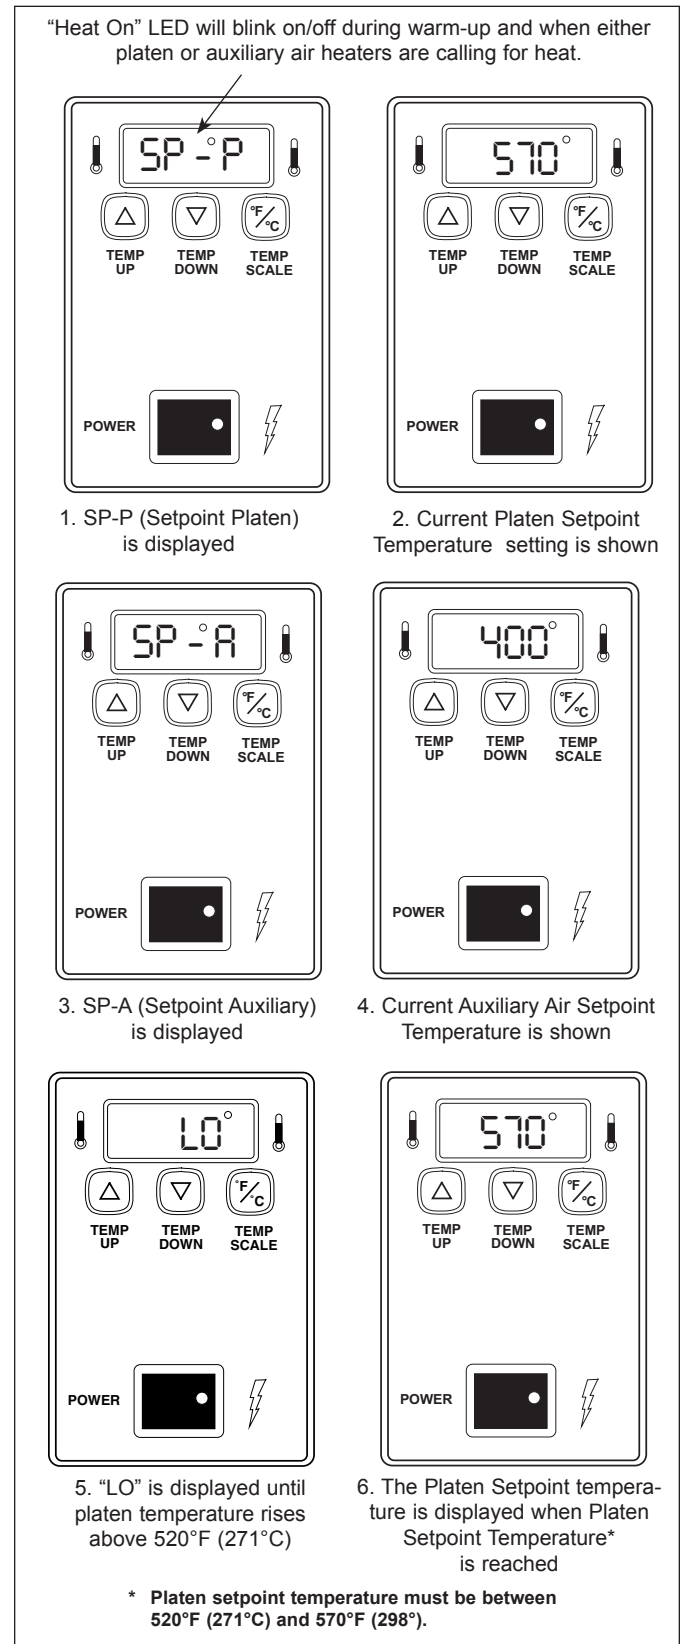

FIGURE 4. TEMPERATURE POWER UP SEQUENCE
1. Turn the Rocker Switch (power On/Off) to ON and wait for the Temperature Display to finish the power up sequence (Figure 4).
1. Turn the Rocker Switch (power On/Off) ON and wait for Temperature Display to finish the power up sequence (Figure 4).